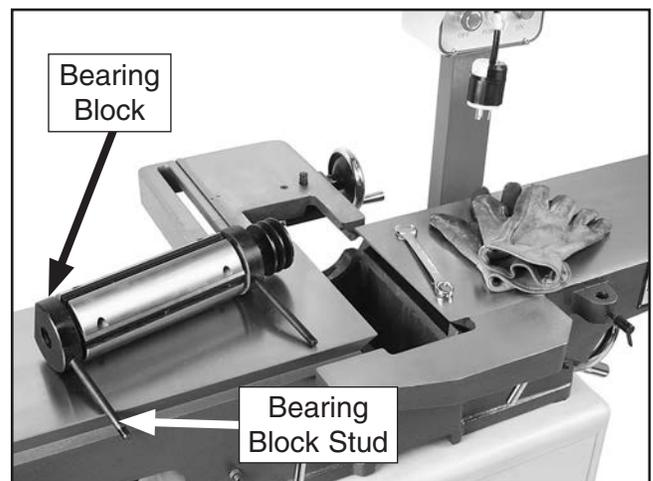

Figure 4. Example of cutterhead removed.
6. Wearing heavy leather gloves, carefully remove the cutterhead from the casting (see **Figure 4**).
7. Remove bearing block studs (see **Figure 4**).